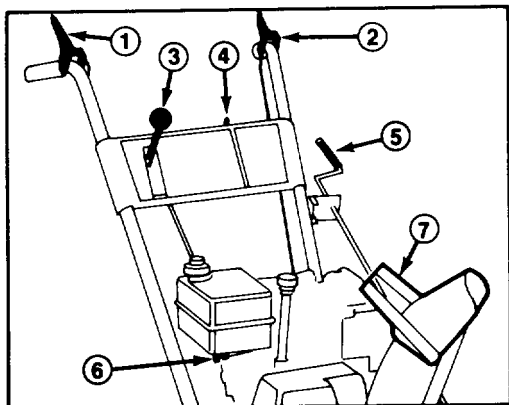

Figure 13
Auger Drive Control (Fig. 13) — Control has two positions: ENGAGE and DISENGAGE. To engage auger and impeller, compress lever against right handle grip. To disengage, release lever.
Traction Control (Fig. 13) — To achieve traction, lever must be compressed against left handle grip. To stop traction, release lever.
Speed Selector (Fig. 13) — The control has four positions: reverse, 1, 2 and 3. To change speeds, move gear shift to position desired. Lever will lock in notch at each speed selection. Use positions 1, 2, and 3 depending on snow conditions.
Ignition Switch (Fig. 13) — Switch has two positions: ON and OFF. Rotate key to ON before starting engine with the recoil starter. To stop engine, rotate key to OFF.
Fuel Shut-Off Valve (Fig. 13) — Valve is located under fuel tank. Close valve to stop fuel flow from fuel tank and open valve to allow fuel to flow to the carburetor. Close valve when snowthrower is not used.
Discharge Chute Control (Fig. 13) — Rotate discharge chute control clockwise to move discharge chute to the left and counterclockwise to move chute to the right.
Chute Deflector Handle (Fig. 13) — Deflector handle is on top of discharge chute, and it is used to control height of the snow stream.
3. Open fuel shut-off valve below fuel tank (Fig. 13).
5. Rotate ignition key to ON (Fig. 13).
1. Release traction and auger drive control (Fig. 13).